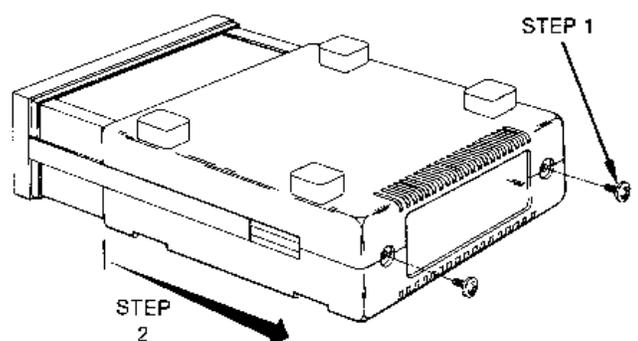

Figure 2-1. Top and Bottom Cover Removal
To verify the line voltage (or change the fuse), the operator must first remove the top and bottom covers. Remove the top and bottom covers using the following steps and figure 2-1.
- Secure covers to unit using two screws as shown in figure 2-1.
For OPT 001 instruments on the General Purpose Interface Bus (GPIB), ensure that the instrument GPIB address is correct. The GPIB address can be changed by the internal switch (figure 2-7) or the front panel STATUS key (rotate knob when GPIB ADRES is displayed). (See figure 2-1 for cover removal, 2-6 for installation.)